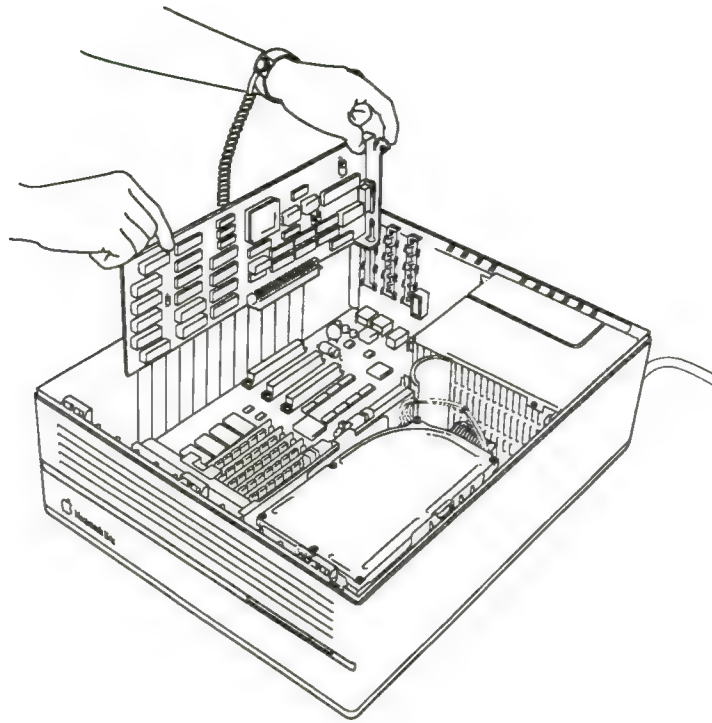

Figure 25. Proper way to handle the video card
- a. Pick up the video card by the top of the metal bracket and the top of the card's other end. (Be careful not to touch the pins on the bottom edge of the card. See Figure 25 for proper handling.)
- b. Align the card over the slot you have chosen. Make sure that the connector on the bottom of the card aligns directly over the slot, and that the rear edge aligns with the tab on the inside of the back panel. See Figure 25.